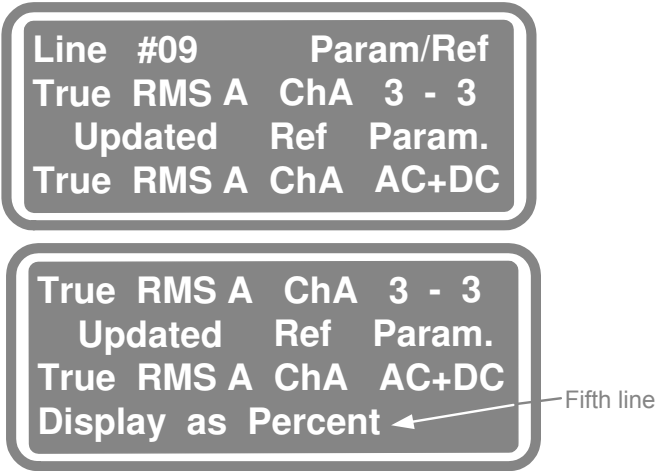

Figure 23. Choosing Harmonic Percent
4. Use the ▼ key to scroll to the fifth line, which allows the display to be defined in Percent, Ratio, Units, or dB. This allows you to change the display to be percentages of the selected reference. See Figure 23.